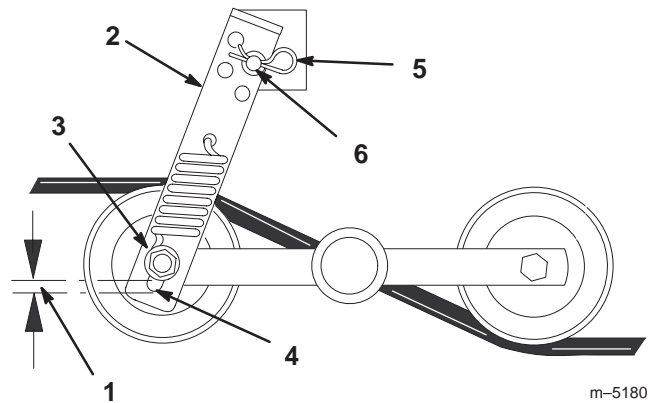

Figure 25
3. Measure the distance from the bottom of the spacer on the pulley mounting screw to the bottom of the slot in the idler adjustment link. The distance should be 1/4 in. (6 mm) or less (Fig. 25).
4. To adjust, remove the hairpin cotter and washer securing the tension bracket to the mounting pin (Fig. 25).
5. Slide the tension bracket off of the mounting pin. Adjust and select a new hole until the bottom of the spacer is within 1/4 in. (6 mm) from the bottom of the slot (Fig. 25).
6. Secure the tension bracket with the washer and hairpin cotter (Fig. 25).
4. Release the tension in the idler pulleys before removing or installing the belts (Fig. 25).
6. Check the distance between the clevis pin and bottom hooks of the springs (Fig. 25). The distance should be 1/4 in. (6 mm) or less.